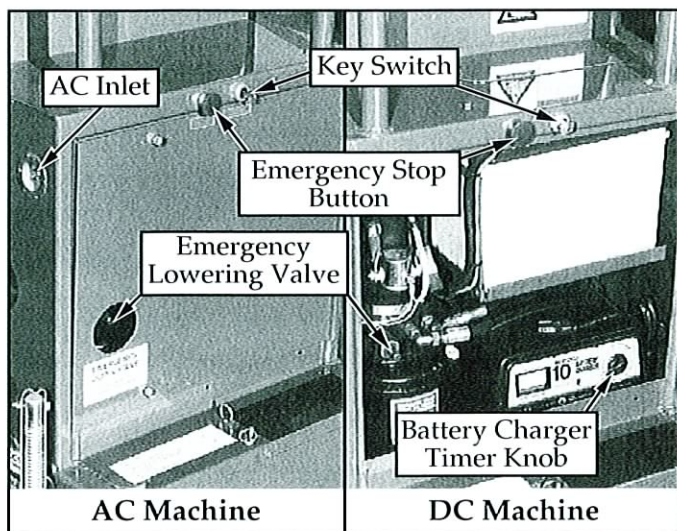

Figure 2: Base Controls
2. Be sure the unit has been properly set up with all four (4) outriggers properly deployed and the base leveled.
5. Pull out on the lower emergency stop switch button to turn ON. The lower emergency stop switch is located at the rear of the machine (Figure 2). In the event of an emergency, push the button.
Ask a person on the ground to open the emergency lowering valve to lower the platform. This valve is accessed through the opening found in the rear cover at the back of the machine (Figure 2).
2. The battery charger is located inside the rear compartment (Figure 2). Connect extension cord (12 gauge (1.5 mm2) conductor minimum and 50 ft. (15 m) in length maximum) to the charger plug. Connect other end of extension cord to properly grounded outlet of proper voltage and frequency.